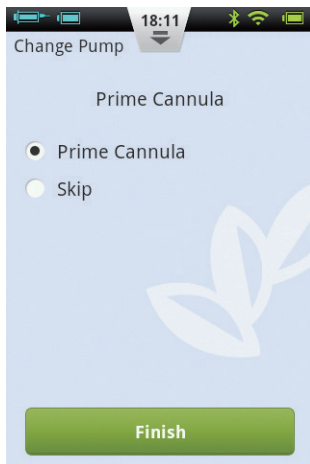

Figure 78
**6** Now choose whether or not to prime the cannula (Figure 78). Upon completion, the pump will begin to deliver.